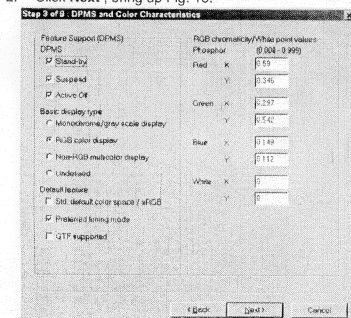

Fig. 16
2. Click **Next**, bring up Fig. 16.